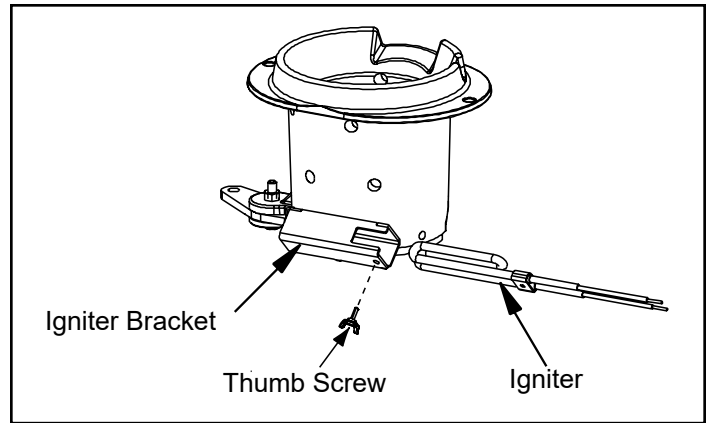

Figure 27.1
2. The wire leads to the igniter are connected to the wire harness with 1/4 inch male / female spade connectors. These wires will pull forward approximately 4 to 5 inches (102mm to 127mm). Disconnect the spade connections and remove the igniter from the chamber. Loosen the thumb screw and slide igniter out (**Figure 27.1**).